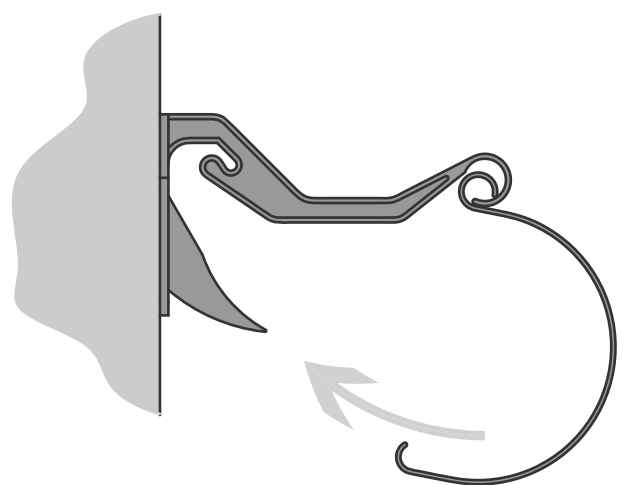

Fig. 25a
15.3 Vynadeep® gutter sections may also be clipped into the new Top-hung bracket (DK502) from below. See Fig. 25a and 25b.